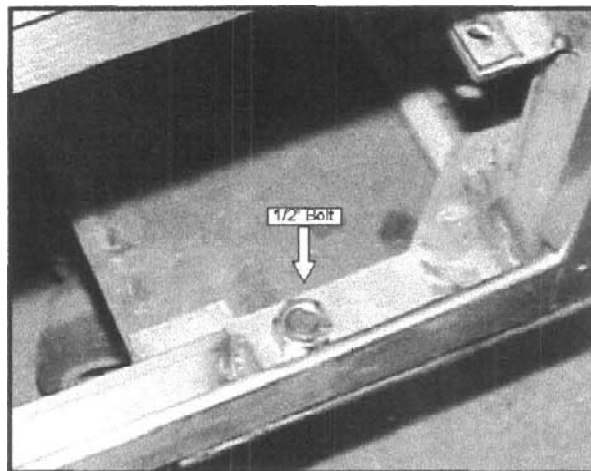

Figure 7 Oven Base Skid Bolt Removal
4. Remove the two bolts securing the skids to the front of the oven base section. See Figure 7.
7. Reinstall the two bolts that were removed in Step 2, from the installation base through the oven base section into the installation base. See Figure 7 for installation location.